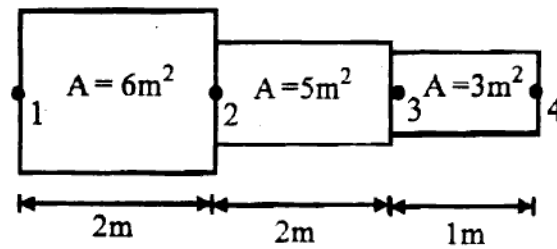

Fig. Q. 9
9. For the smooth pipe of variable cross – sections shown in fig. Q. 9, Determine the potentials at the junctions, the velocities in each section of pipes and the volumetric flow rates. The potential at the left end is $10 \text{ m}^2/\text{s}$ and at the right end is $1 \text{ m}^2/\text{s}$. 13